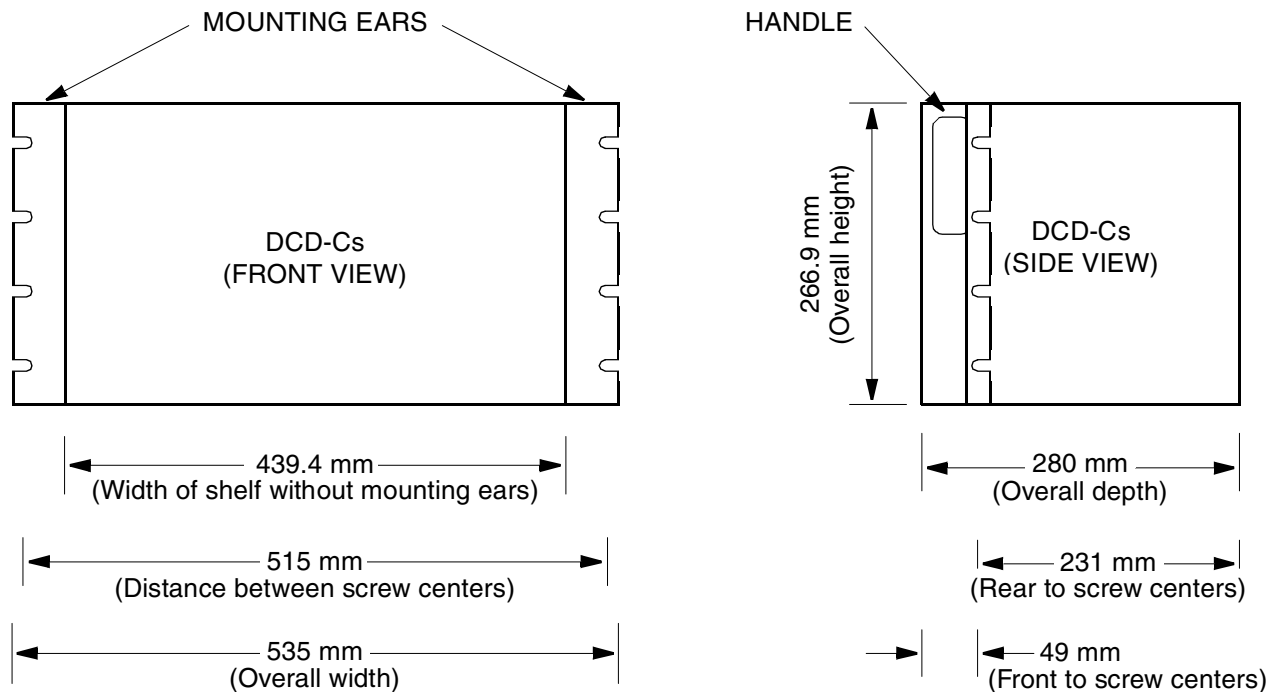

Figure 3. DCD-Cs Dimensions
1. Refer to Figure 3 and attach the mounting ears in the correct position as required.